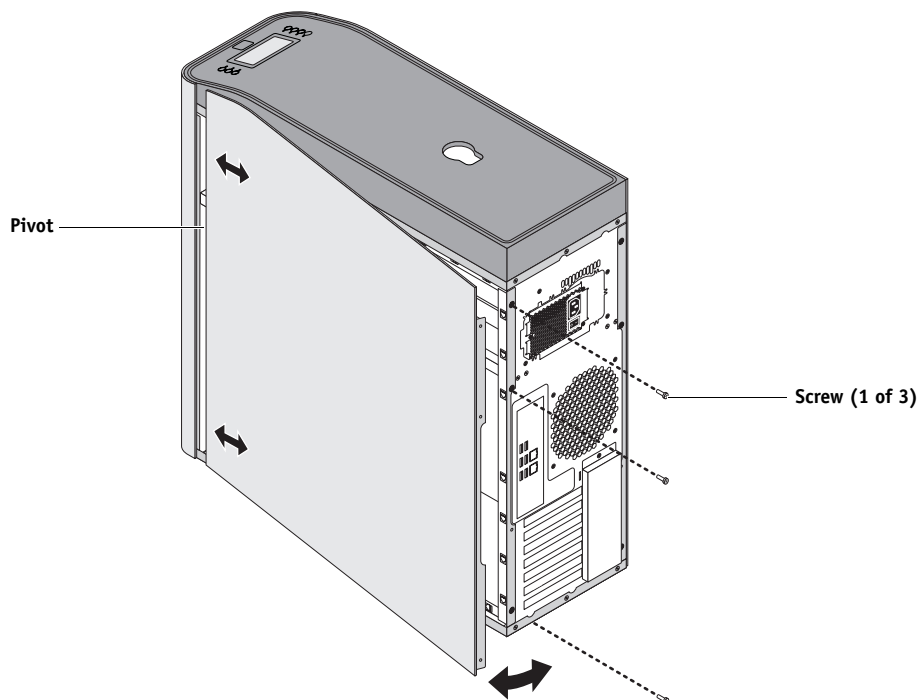

FIGURE 18: Removing/replacing the left or right panel
1. Remove the three screws that secure the panel to the back of the chassis (see Figure 18).
3. To replace the panel, fit the front edge of the panel around the pivot in the chassis (see Figure 18).